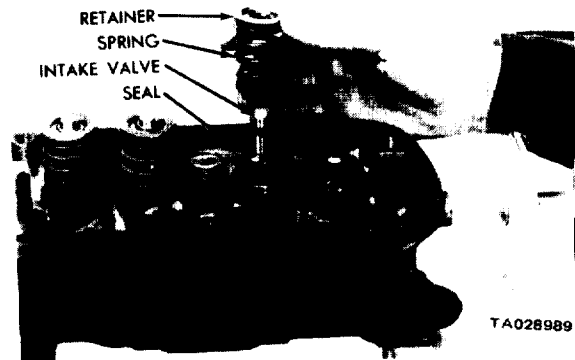

Figure 11-26. Installing Valves, Cup Seals, Springs, and Retainer.
(3) Install new cup seals on all valve stems and over the valve guides (figure 11-26). Install valve springs and retainers.